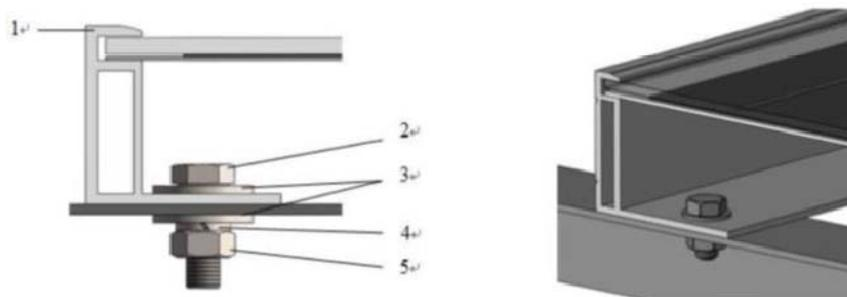

Figure 1. PV module installed with Bolt fitting method
- Secure the module in each fixing location with an M8 bolt and a flat washer, spring washer and nut as shown in Figure 1 and tighten to a torque of 16~20 Nm.